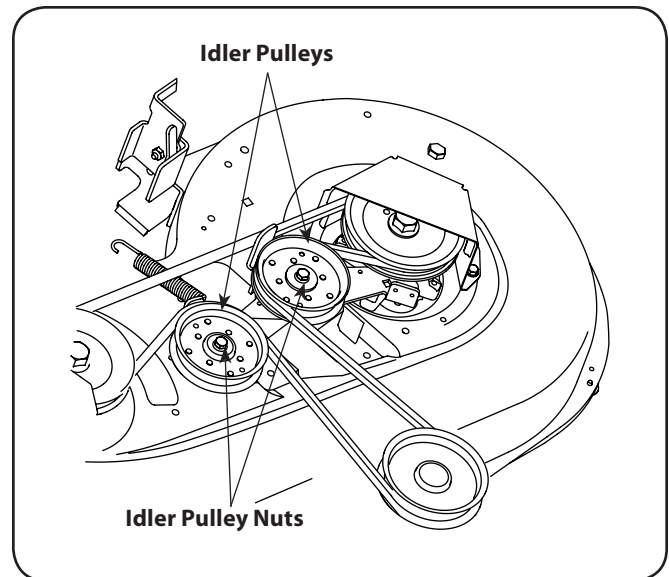

Figure 7-6
- Loosen but do not remove, the idler pulley nuts. This will enable the belt to be easily removed from the idler pulleys. See Fig. 7-6.